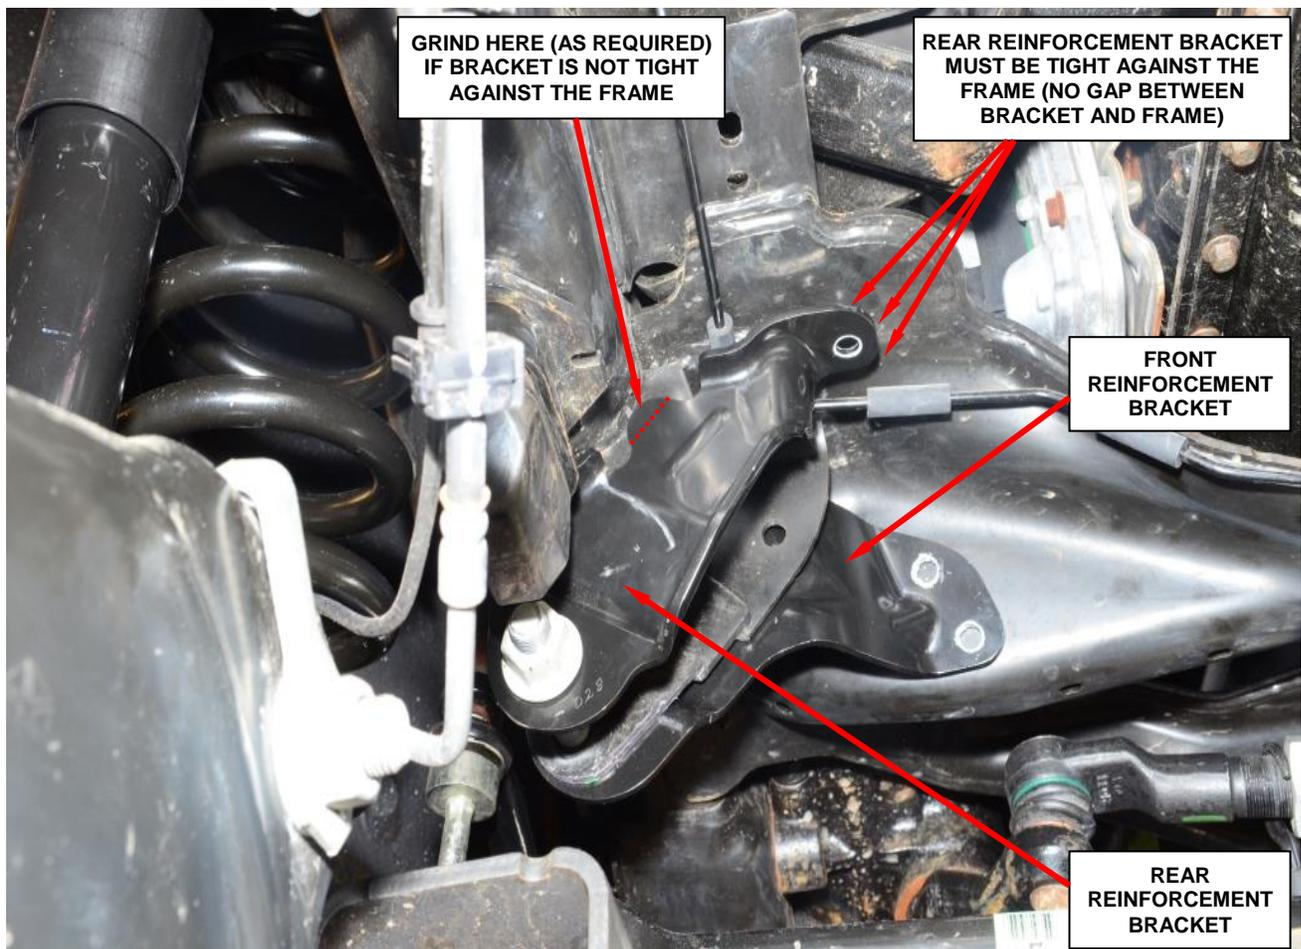

Figure 47 – Install and Verify Fit of New Reinforcement Brackets
5. Carefully install the track bar reinforcement brackets into position. Then install the new track bar bolt and nut snug enough to hold the new brackets in position (Figure 47).
6. Verify the fit of the rear reinforcement bracket. Due to build variation, some grinding of the rear reinforcement bracket may be required on some trucks. If the rear reinforcement bracket contacts the frame weld or frame rail before the rear reinforcement bracket is fully seated, grind the rear reinforcement bracket as shown in Figure 47.